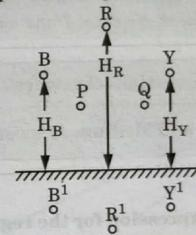

Fig. 2.26.1. Three-phase power line communication line and image of power line.
- Consider a three-phase system consisting of three conductors  $R$ ,  $Y$ , and  $B$ , which are placed at the corners of a triangle and two telecommunication lines  $P$ ,  $Q$  connected parallel to the three-phase system as shown in Fig. 2.26.1.